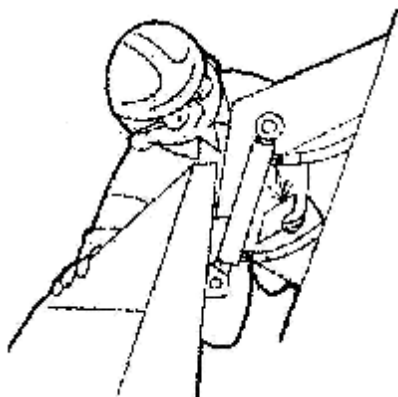

Fig 48 Right
**WARNING:**diesel or hydraulic oil may penetrate the skin or eyes under the pressure,it may lead to serious injury,blind,or death.the leakage under the pressure maybe not obvious,you may test it by the paper plate or wood,never test it by naked hand.Wear the protecting glasses to protect the eyes,if the liquid splash on the skin,ask the professional doctor to treat it(Fig48).